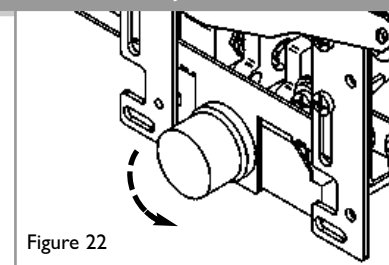

Figure 22
**Ensure appliance is off and cool.** The battery is located in the front of the ignition unit, on the right hand side of the burner (shown in figure 22). Unscrew the battery holder cap. Insert 1 x 'AA' (1.5 volt) battery. Replace cap.